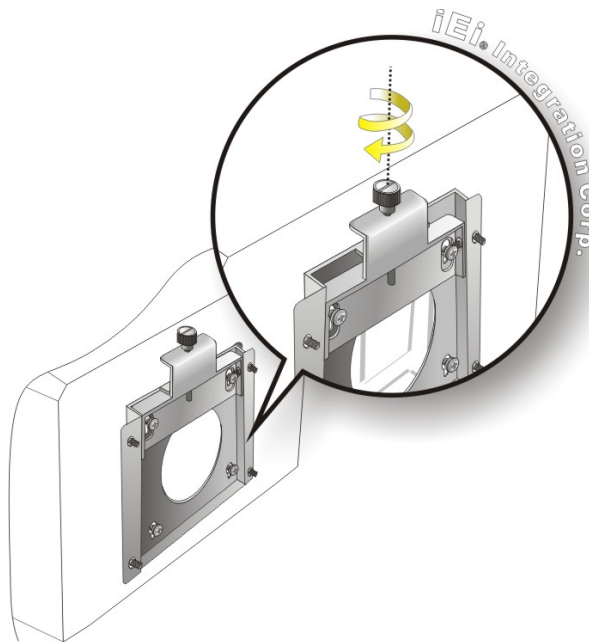

Figure 3-15: Secure the Panel PC
Step 9: Secure the panel PC by fastening the retention screw of the wall-mounting bracket (**Figure 3-15**).